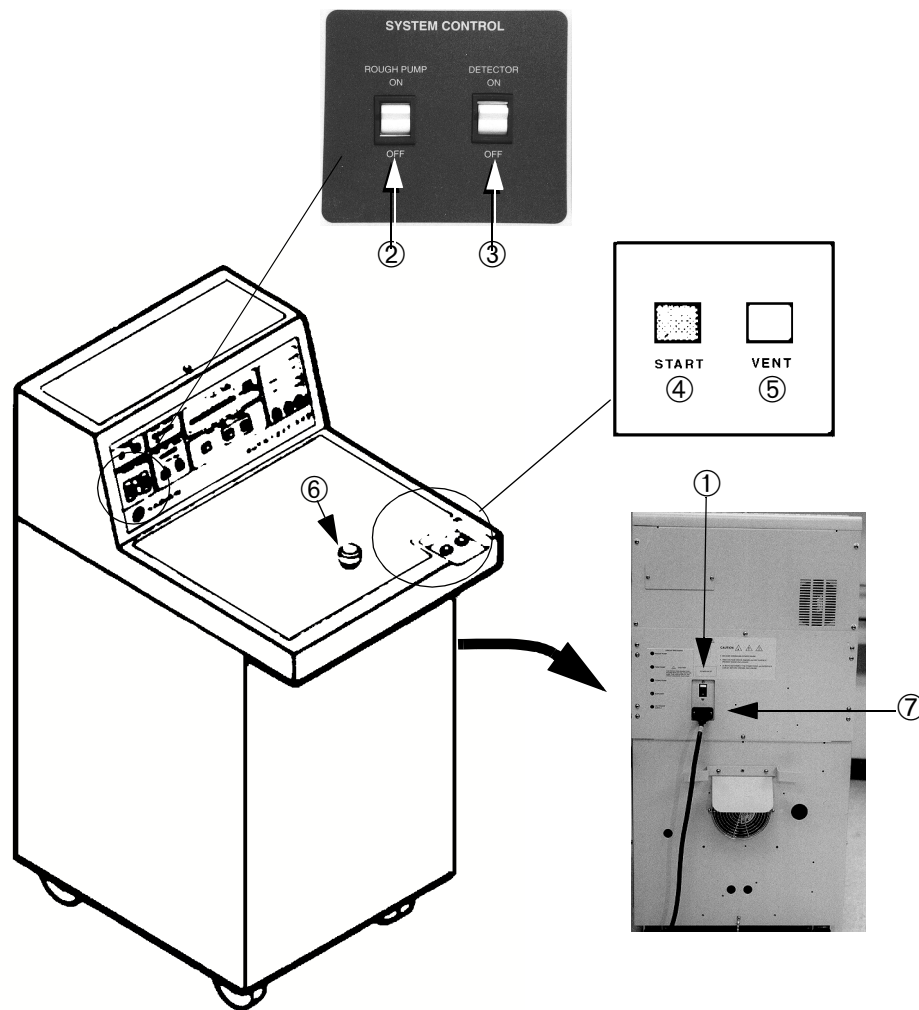

Figure 3-2 Start-Up Controls
Figure 3-2 shows the important 947/948/960 operation controls for start up and power. For circuit breaker descriptions, refer to “Rear Panel Power Connection and Circuit Breakers” on page 1-9.
Refer to Figure 3-2 and follow the start up procedure, listed in the next Section, and in "Calibration and Sensitivity Checks" on page 3-11 procedure to put the 947/948/960 in a *Ready for Operation* state from the *All Systems off* condition.
2. Place the test port plug in the test port opening ⑥. Refer to Figure 3-2 on page 3-8.